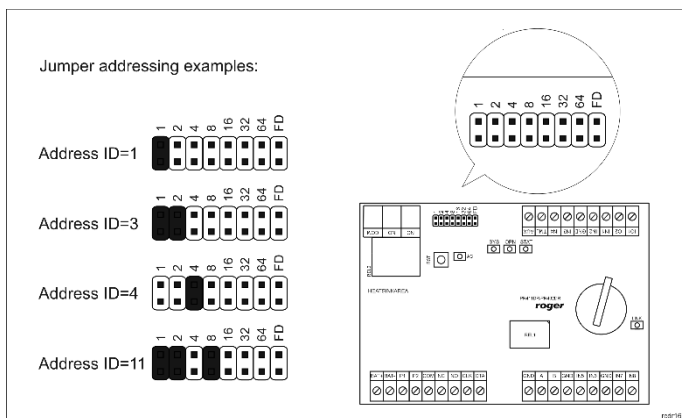

Fig. 5 Addressing with jumpers
2. Place jumper on FD contacts (fig. 5).